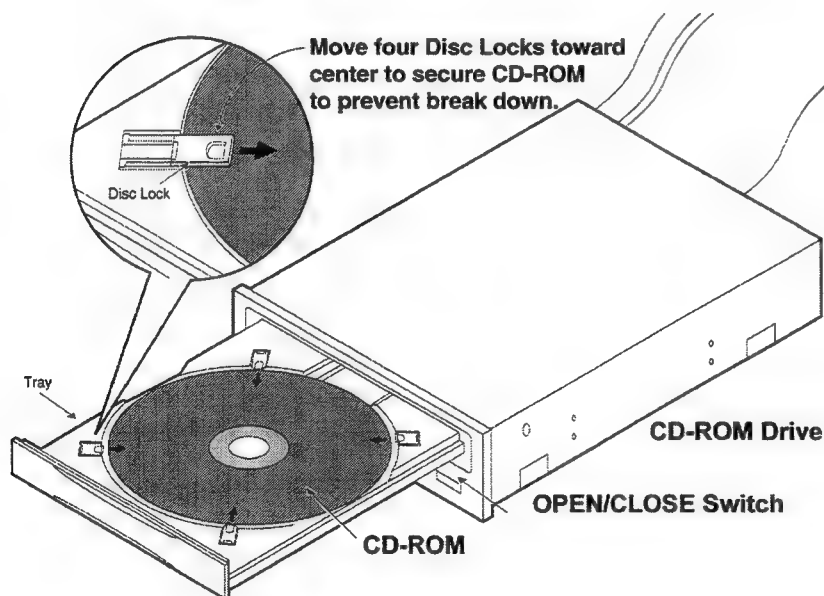

Figure 11: CD-ROM Installation
31. Power-up the game and set the CD-ROM into CD-Drive. (See Figure 11)
33. Set the CD-ROM. Secure the CD-ROM with Disc Locks. (See Figure 11)